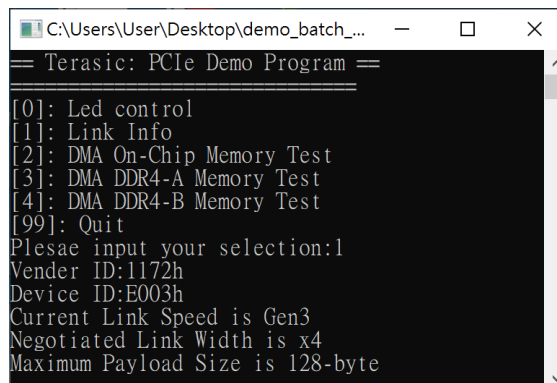

Figure 3-11 Screenshot of Link Info
8. Type 1 followed by an ENTER key to select Link Info item. The PCIe link information will be shown as in **Figure 3-11**. Gen3 link speed and x4 link width are expected.